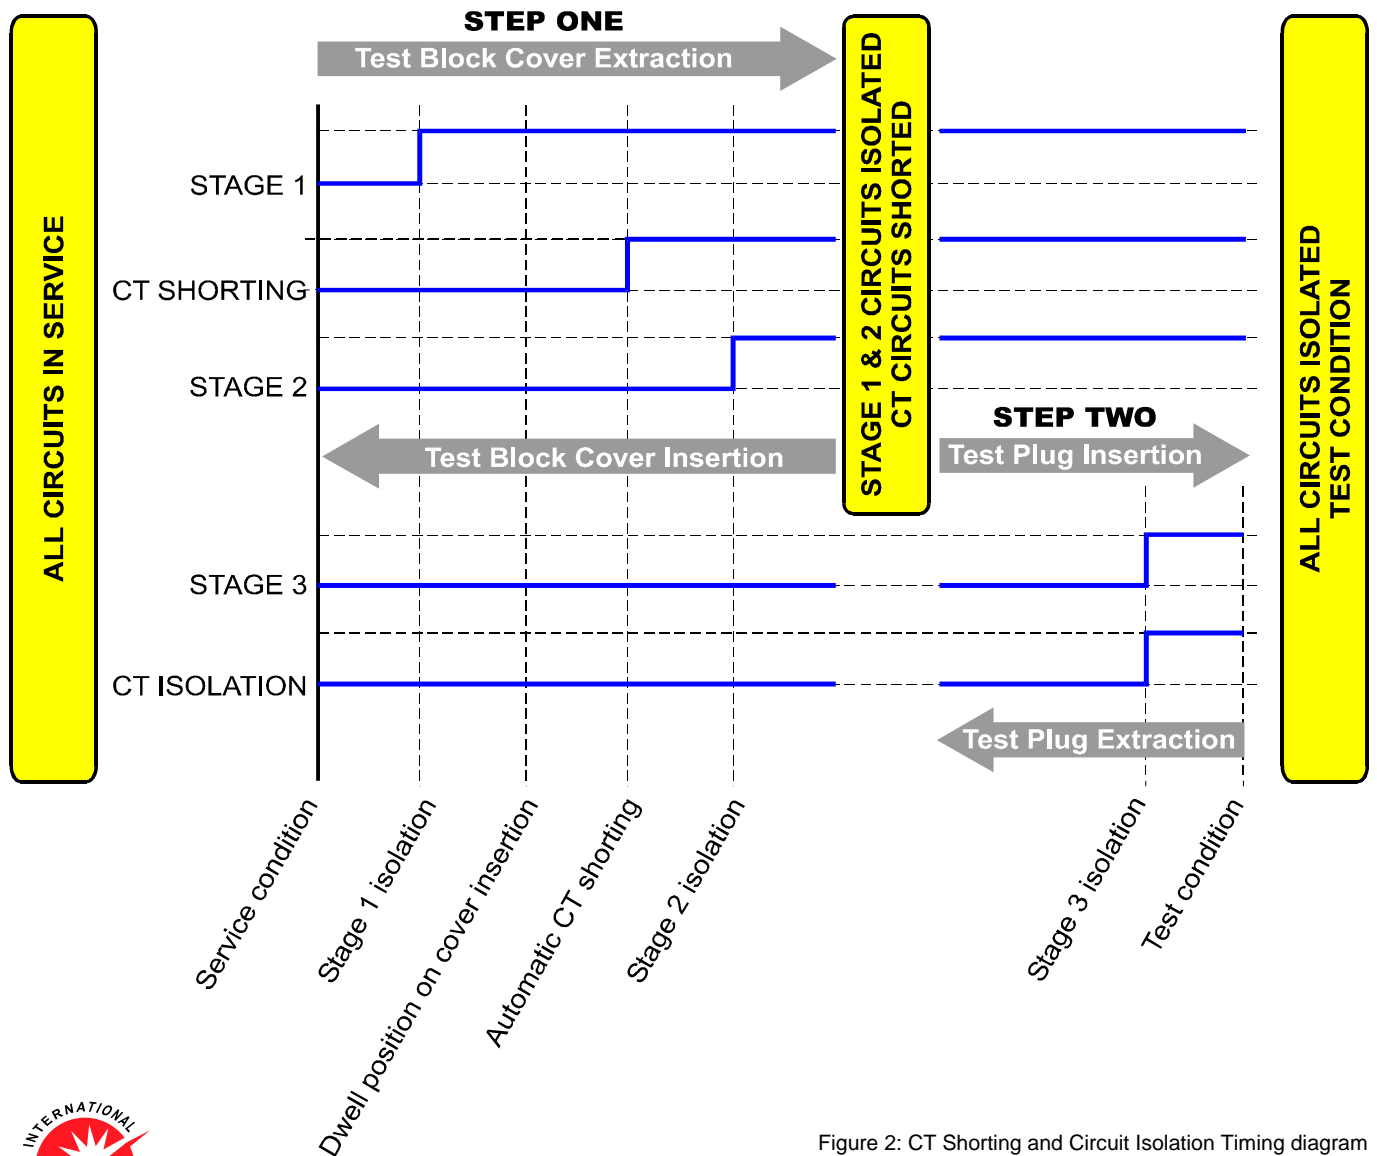

Figure 2: CT Shorting and Circuit Isolation Timing diagram
Changing the 2RMLG-S Test Block from the normal service condition occurs in four (4) stages as depicted in the timing diagram figure 2.
This process occurs in two (2) steps as described below and depicted in the timing diagram as per figure 2.